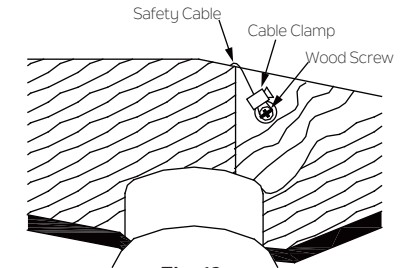

Fig. 12
**Step 2 .** Insert the safety cable through the mounting bracket and one of the holes in the outlet box into the ceiling. Adjust the length of the safety cable to reach the wood screw and flat washer by pulling the extra cable through the cable clamp until the overall length is correct, put the end of the cable back through the cable clamp, forming a loop at the end of the cable. Tighten the cable clamp securely. Now, put the loop in the end of the safety cable over the wood screw and under the flat washer. Tighten the wood screw securely. (Fig.12)